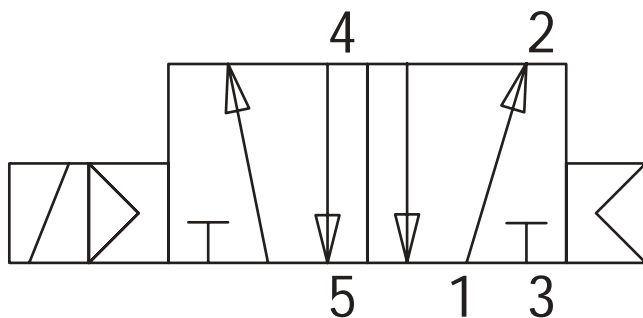
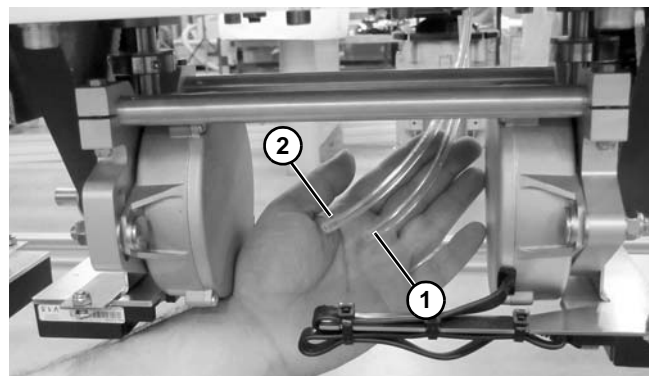

Figure 49
Figure 50
Dorner recommends using a 5 port, 2 way solenoid valve (**Figure 49**) to operate stop height.
1. Connect port 4 (**Figure 49**) of the 5 port, 2 way valve to the lower port (**Figure 50, item 1**) on the lift. Dorner fittings accept 1/4" outside diameter tubing standard.
2. Connect port 2 (**Figure 49**) of the 5 port, 2 way valve to the top port (**Figure 50, item 2**) on the lift. Dorner fittings accept 1/4" outside diameter tubing standard.